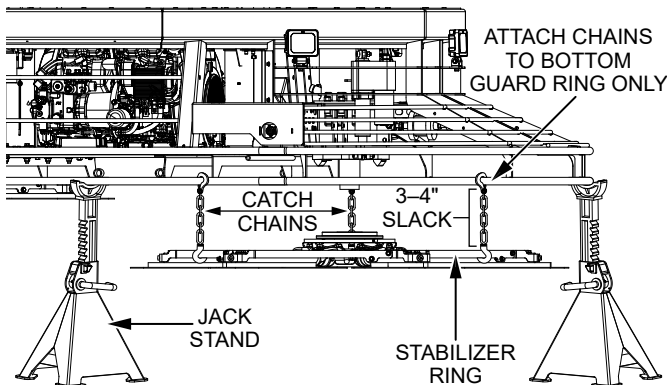

Figure 44. Preparation For Spider Removal
3. Place the trowel on **heavy-duty jack stands** (Figure 44) on secure, level ground in an area that is free of dirt and debris.
4. Attach one end of three equally spaced straps or **catch chains** to the **stabilizer ring** (Figure 44). Attach the other end of these straps or chains to the **bottom guard ring** in a manner that would prevent the spider assembly from falling.